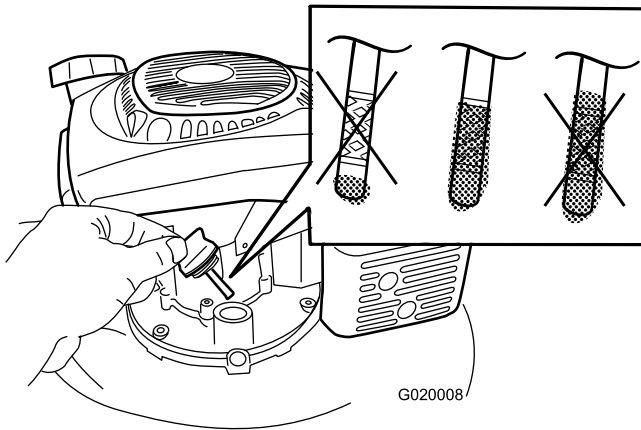

Figure 9
1. Remove the dipstick, wipe it clean, and insert it into the oil filler neck, but **do not** screw it in (Figure 9).
2. Remove the dipstick and check the oil level (Figure 9). If the oil level is below the Add mark on the dipstick, **slowly** pour oil into the oil-fill tube to raise the oil level to the Full mark on the dipstick. **Do not overfill.** (Max. fill: 22 oz. (0.65 l), type: 10W-30 or SAE 30 detergent oil with an API service classification of SJ or higher.)